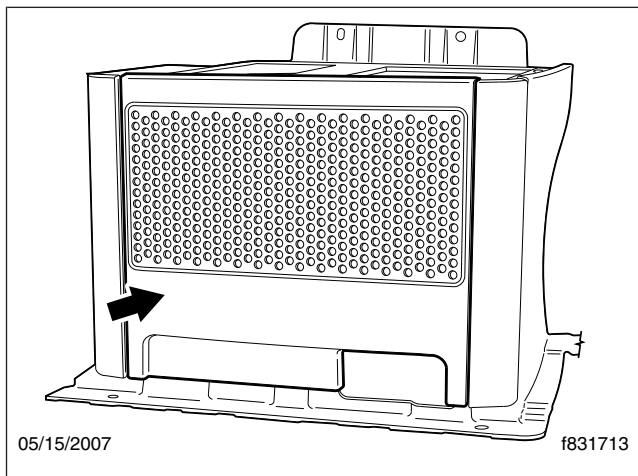

Fig. 8, Sleeper HVAC Access Panel, 60- and 72-inch Sleepers
2. In vehicles with 60-inch and 72-inch sleepers, remove the sleeper HVAC access panel on the inboard side of the cabinet. See Fig. 8. The panel is held in place with four spring clips. Pull straight out to remove it.
2. Remove the sleeper HVAC access panel on the inboard side of the cabinet. See Fig. 8. The panel is held in place with four spring clips. Pull straight out to remove it.